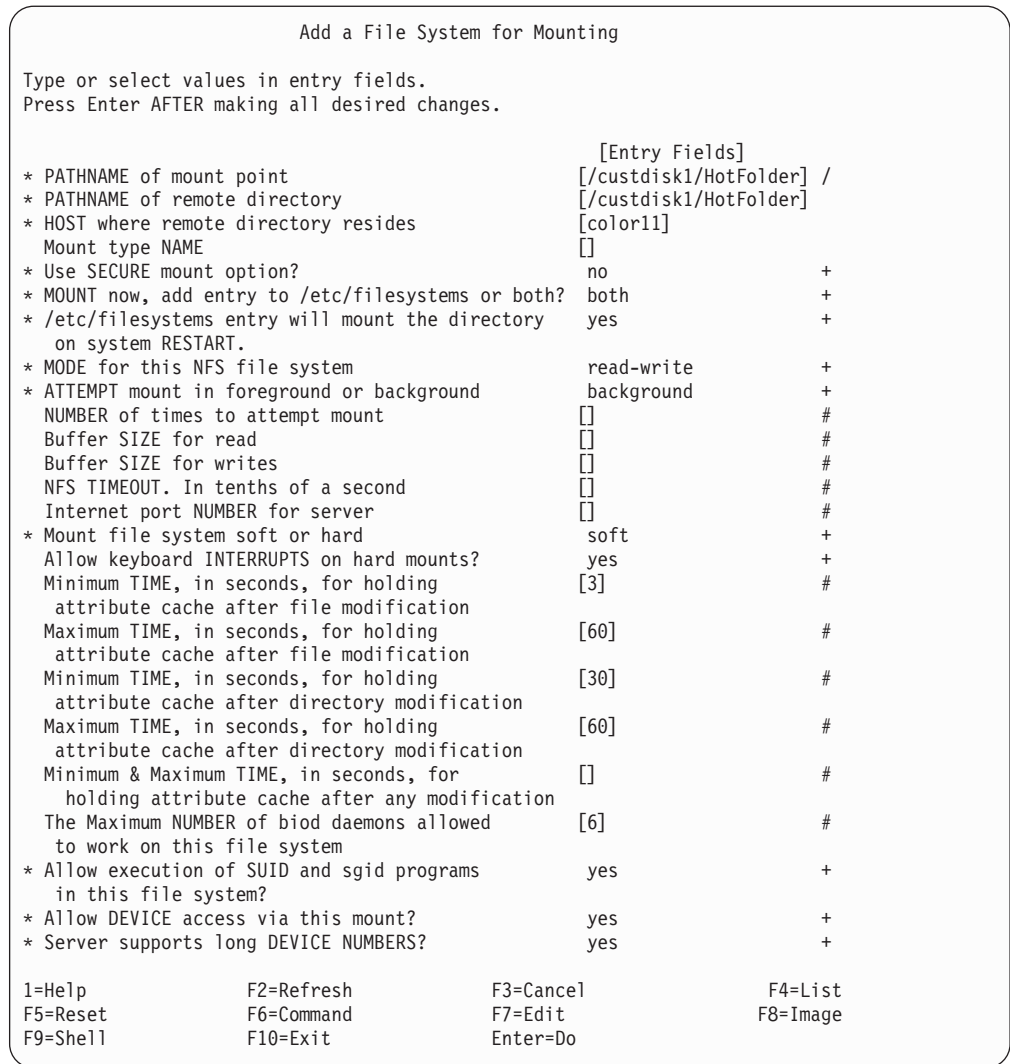

Figure 32. SMIT Add a File System for Mounting Panel
4. Fill in the Add a File System for Mounting panel. Figure 32 on page 81 shows the values you would enter to mount the /custdisk1/HotFolder directory. Note that you can leave some values blank.